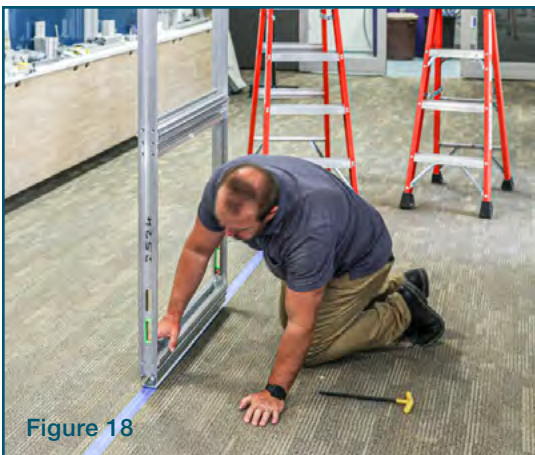

Figure 18
**02** Shift the bottom of the frame to be plumb with the top of the frame. If the frame does not fit, adjust the levelers to slide the frame into position (see Figure 18 and 19).